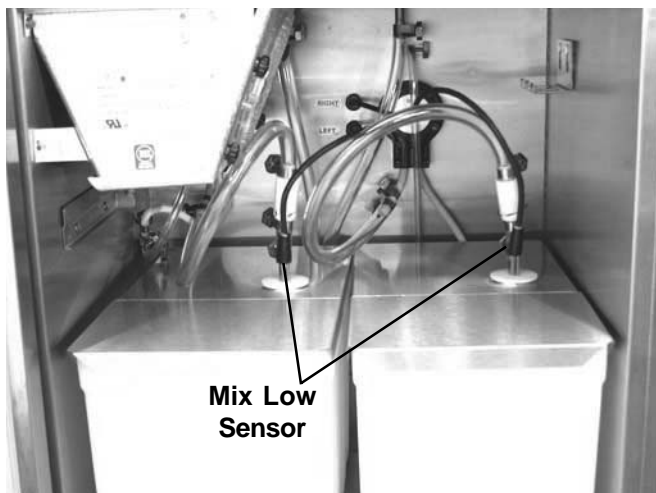

Figure 26. Refrigerated Cabinet
- B. Use a screw driver to make desired adjustment. A label near the potentiometer will give complete instructions. Figure 26.